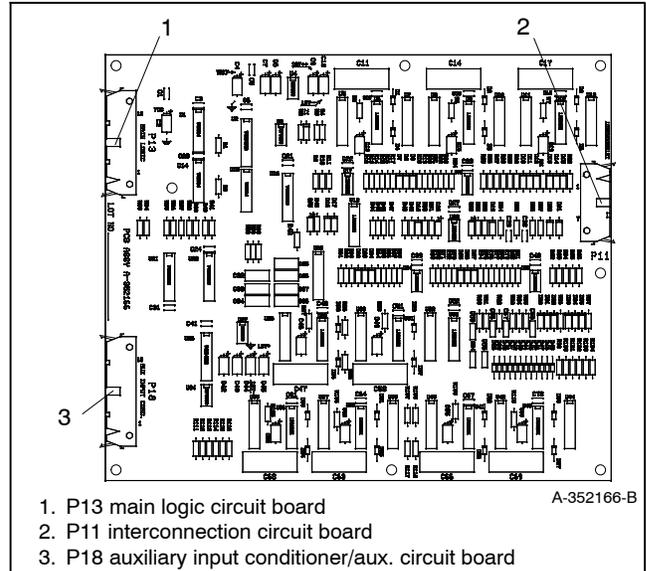

Figure 5 Input Conditioner Circuit Board A-352166
4.1 Input conditioner/aux. circuit board A-352166. See Figure 5.
6.1 Input conditioner/aux. circuit board A-352166. See Figure 5.